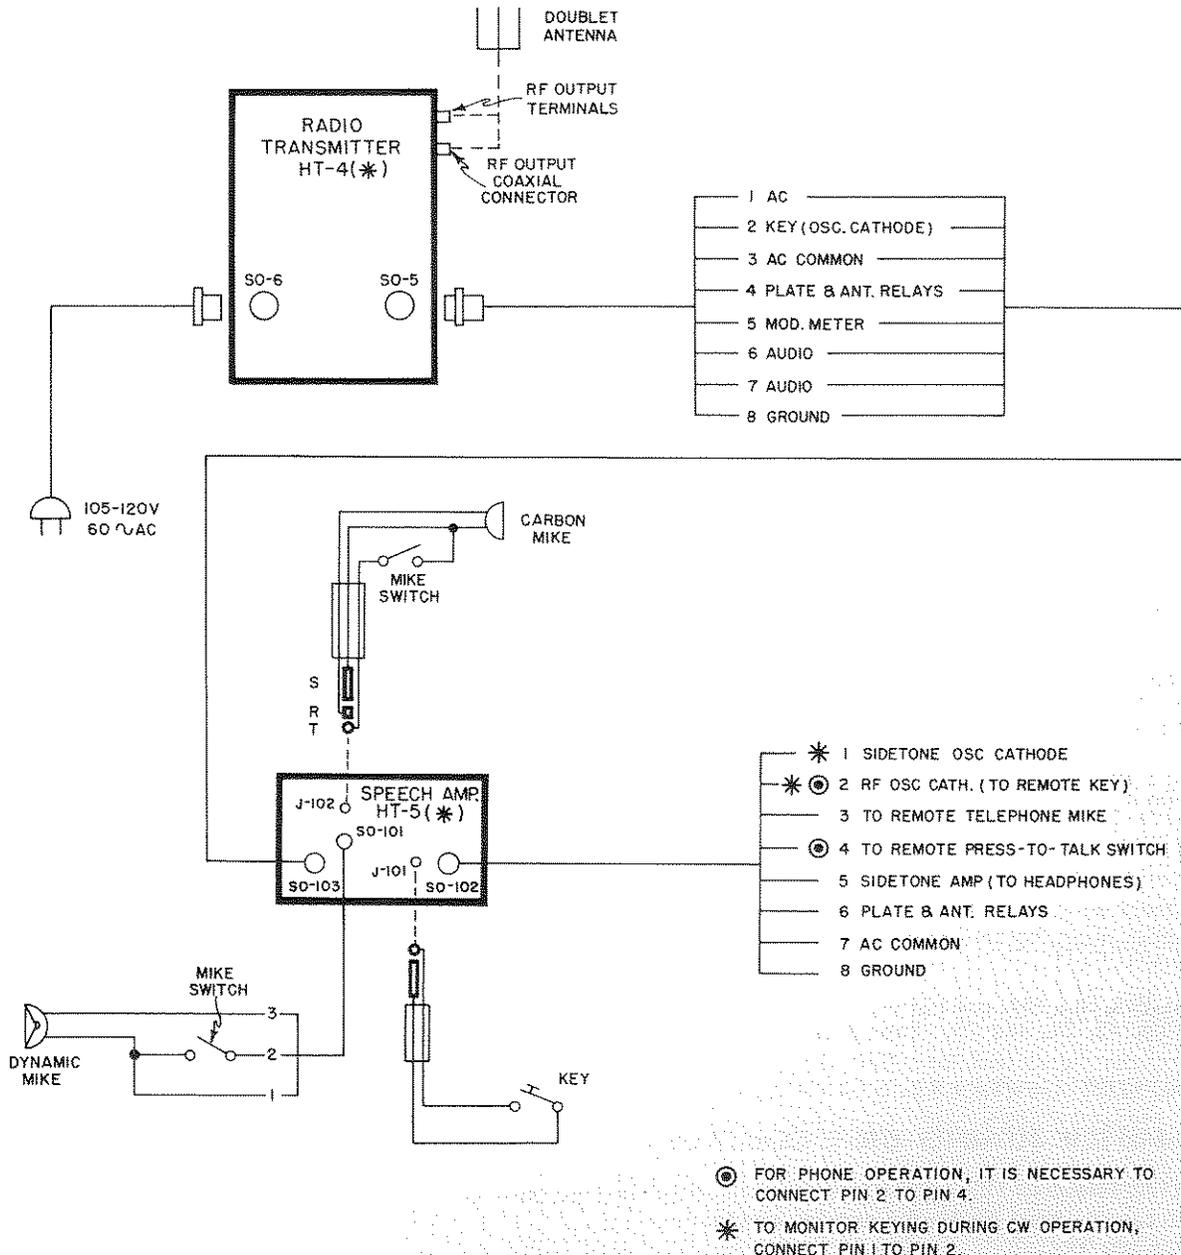

Fig. 1. Radio Transmitter HT-4 (\*) and Speech Amplifier HT-5 (\*), Installation Connections
**TO BC-610 Socket** — Connects the speech amplifier to the transmitter. See Fig. 1 and pages 4 and 5 for connections.
**TO JB-70 Socket** — Provides a sidetone signal for monitoring CW transmissions by means of a headset. Also has provisions for remote keying, remote control of transmitter, and connecting a remote telephone. See Fig. 1 and pages 4 and 5 for connections.